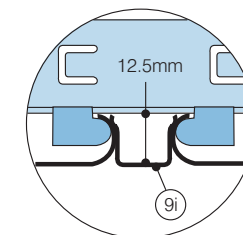

Fig.8 Closed joint (VH closure strip).
The continuous joints in the ceiling can be closed on site by fitting one of the closure strips (9i), (9ii) or (10) (Figs. 8, 9 & 10).